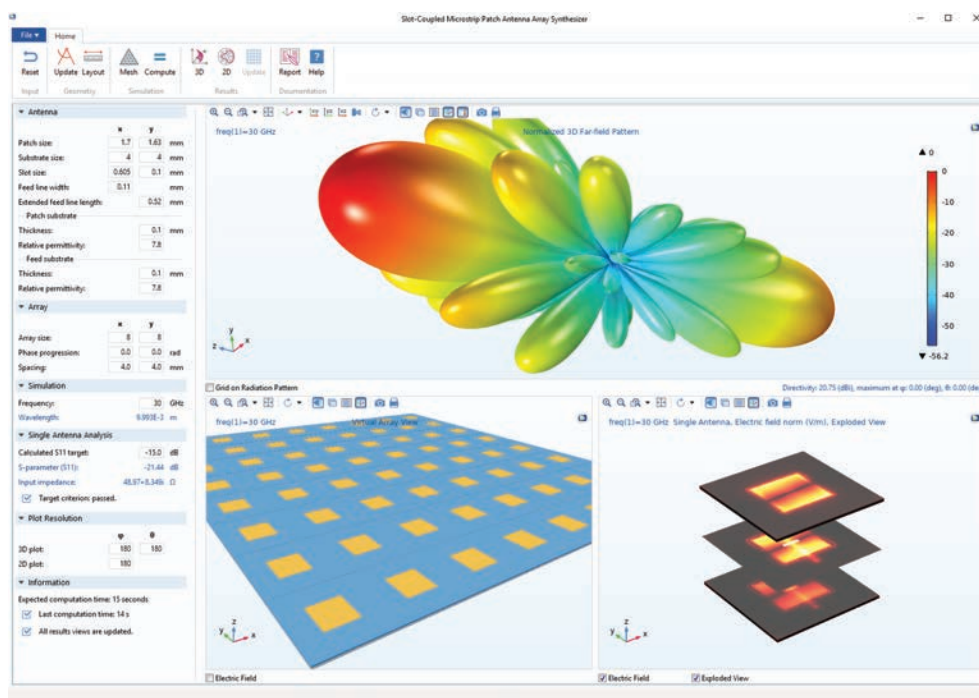

FIGURE 6 Simulation app for quickly estimating the far-field pattern of a phased array antenna using a full-wave single antenna simulation and array factor.
simulation group can cause unexpected delays in the development cycle. The good news is that simulation software has evolved to accommodate specialists who are not dedicated simulation engineers. The simulation models can be converted to easy-to-use apps (Figure 6). An app has a straightforward, specialized user interface (UI) and can be deployed to colleagues and customers through existing web browsers or as a standalone executable file. Such standalone apps do not require purchasing extra software licenses and can run regardless of the operating system. A large number of people involved in EMI test projects can easily access the virtual test kit provided by an app and optimize the product without learning how to use the software behind the curtain.